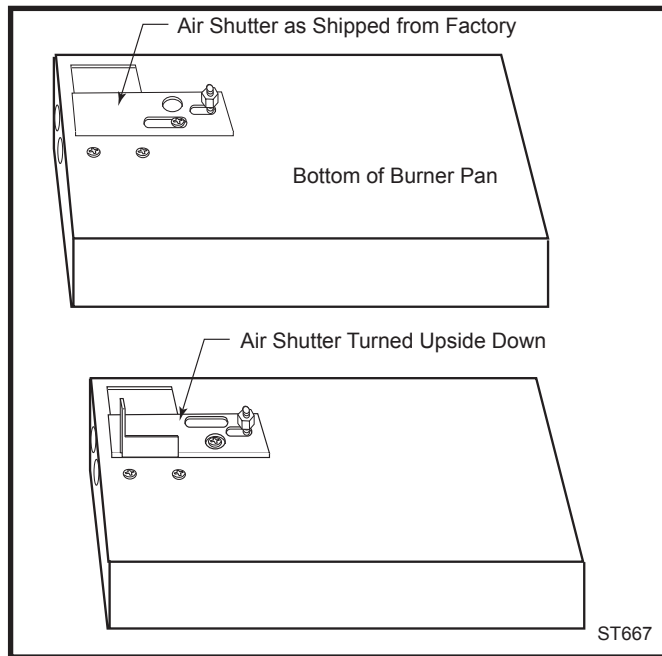

Fig. 11 Remove air shutter, turn upside down and replace.
3. Turn burner upside down and remove air shutter. Turn air shutter upside down and replace on burner. (Fig. 11)